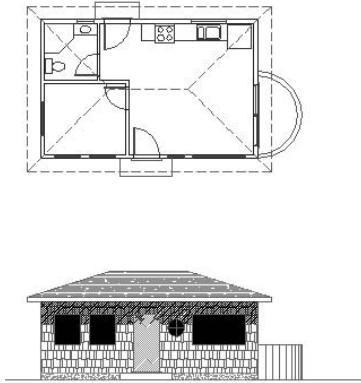

FIGURE 10.1: The Cabin09c drawing with the Hatch-plan-floor and Hatch-plan-wall layers frozen
3. Freeze the Hatch-plan-floor and Hatch-plan-wall layers. Be sure all other layers are thawed and turned on. Your drawing should look like Figure 10.1.